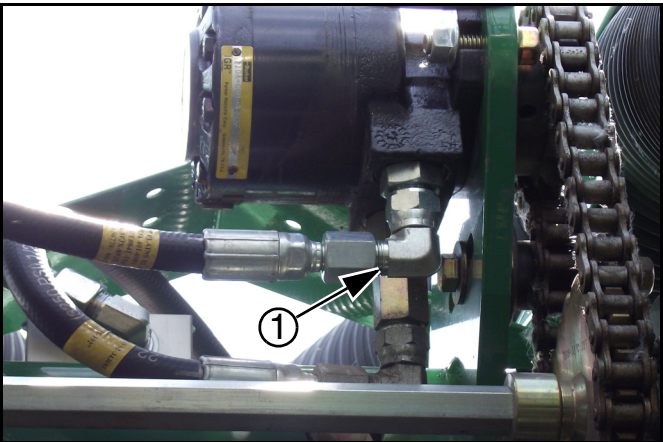

Figure 5
Refer to Figure 5
- 4. Add kit's hydraulic drive T-fitting (811-073C) to existing elbow fitting ① (see Figure 5).